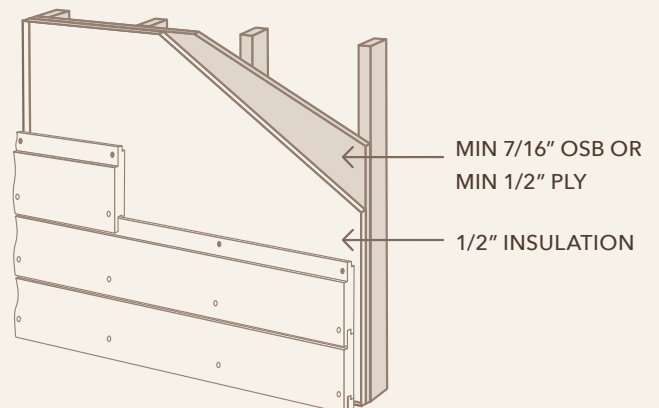

FIG. 2
- Continuous insulation up to 1/2" applied between layers of minimum 7/16" OSB or 1/2" plywood. (Fig. 2)